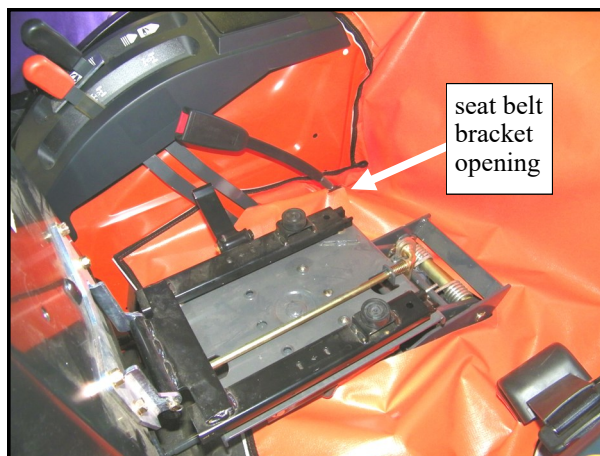
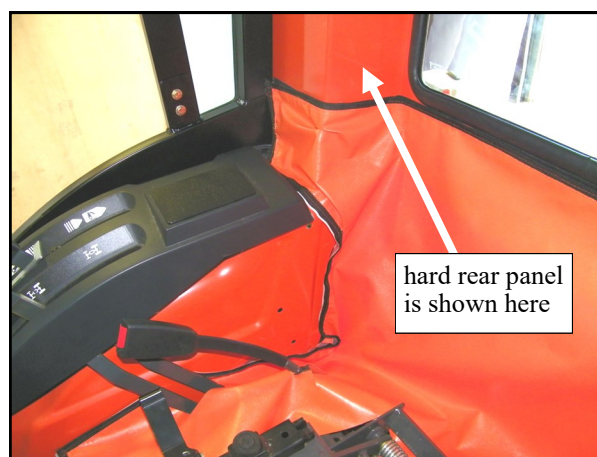

Fig. 12.1 (view from left side of tractor)
Fig. 12.1.1 (view from left side of tractor)
12.1 Per fig. 12.1, tip/raise the seat forward and position the under seat vinyl filler as shown with the seat belt bracket passing through the slit openings on each side. Dry fit this and estimate where to apply the supplied 1" wide hook velcro to the fenders, etc.. Reminder: for best adhesion, apply self-adhesive backed velcro to clean, dry surfaces at room temperature. The top middle section of the under seat filler attaches to the bottom of the soft rear curtain or to the bottom inside surface of a hard rear panel as shown in fig. 12.1.1. For the hard rear panel, install more of the supplied 1" wide velcro to suit.